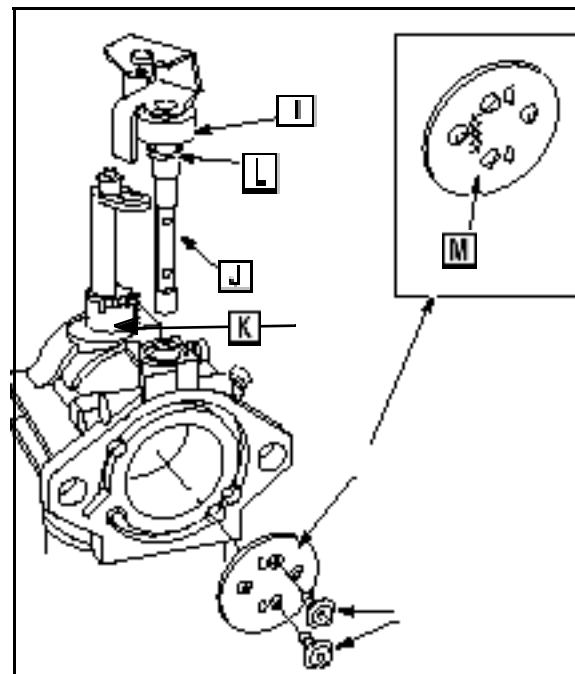

Fig. 130
6. Install the throttle shaft bushing ([J] Fig. 130) to the carburetor body.
7. Slide the foam seal (I) on to the throttle shaft (K).
10. Place the throttle plate (L) on to the throttle shaft with the numbers (M) facing into the carburetor, on the right.
11. Place a drop of Loctite® on to the screw threads. Tighten the throttle plate screws ([N] Fig. 130).